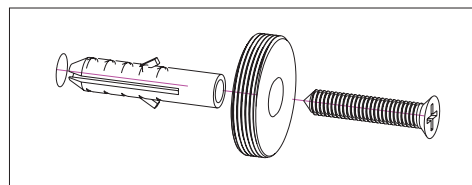

Figure 8
- L. Fasten the Wall Bracket (#1) male thread to the wall (see Figure 8).